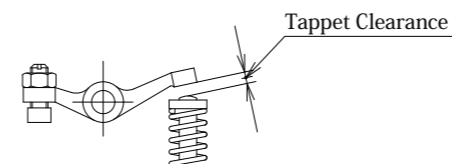

Fig2
4. The proper clearance should be set at 0mm (0.000") to 0.1mm (0.004"). The adjustment is achieved by loosening the lock nut see "Fig.2" and turning the adjustment screw see "Fig.2". The engine must be at top dead center on the compression stroke before any adjustments are made. This engine runs best with the valves set at a tight setting. If the valves are set too loose, power will be affected.